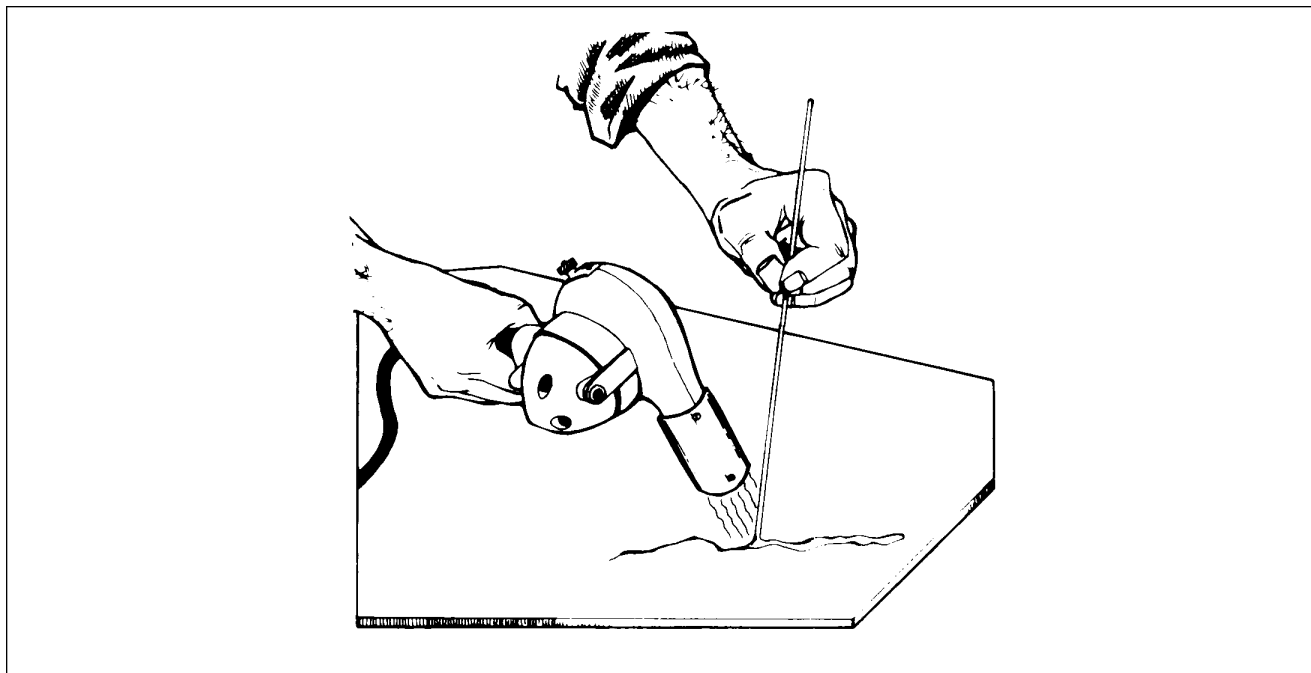

Figure 51-5. Welding Repair Method
- j. This welding method requires a hot air gun and ABS rods. To weld, the gun should be held to direct the flow of hot air into the fusion (repair) zone, heating the damaged area and rod simultaneously. The gun should be moved continuously in a fanning motion to prevent discoloration of the material. Pressure must be maintained on the rod to ensure good adhesion. (Refer to Figure 51-5.)